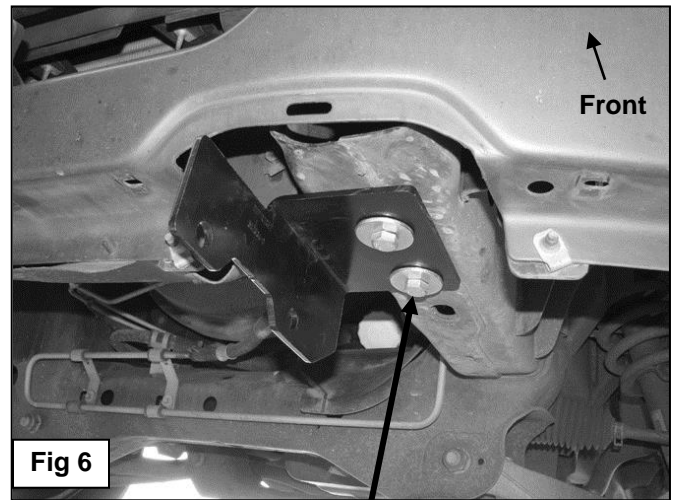

Fig 6
- b. Starting on the driver side of the vehicle, insert (1) ⑨ 12mm Double Nut Plate through the opening in the open front end of the frame, (**Figures 5A & 5B**). Line up the threaded hex nuts on the Nut Plate with the (2) factory holes in the bottom of the frame channel. Hold the Nut Plate in position with (1) ⑫ 12mm x 40mm Hex Bolt, (1) ⑭ 12mm Lock Split Washer and (1) ⑰ 12mm x 44mm Large Flat Washer partially threaded into the rearmost threaded hole in the Nut Plate, (**Figure 6**).
- c. Select the driver side Frame Mounting Bracket. Slide the slot in the Bracket under the 12mm Hex Bolt and Washers. Line up the remaining hole in the Bracket with the forward hole in the Nut Plate. Insert (1) ⑫ 12mm x 40mm Hex Bolt, (1) ⑭ 12mm Lock Split Washer and (1) ⑰ 12mm x 44mm Large Flat Washer into the remaining hole in the Bracket, (**Figure 6**). Snug but do not fully tighten hardware at this time.